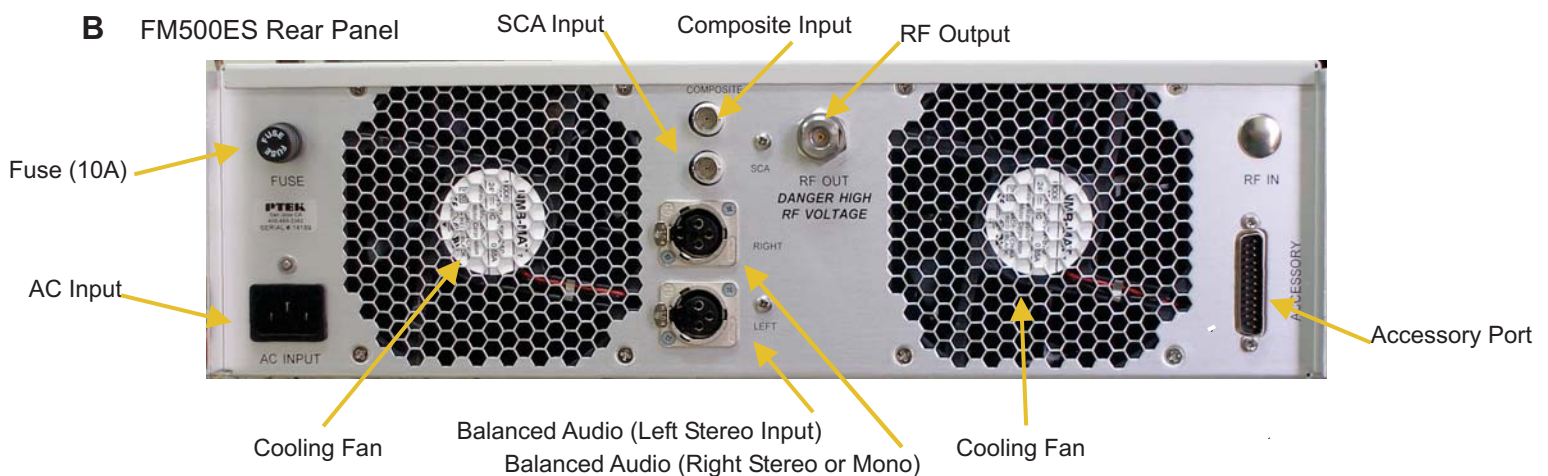

Figure 1-4. FM500ES Open Top View (A) and Rear Panel (B)
| Figure 1-4 | FM500ES Open Top View (A) and Rear Panel (B) | 1-3 |
Major internal components of the FM500ES can be seen in the open top view (cover removed) displayed in Figure 1-4 (A). Features on the FM500ES rear panel are shown in Figure 1-4 (B).